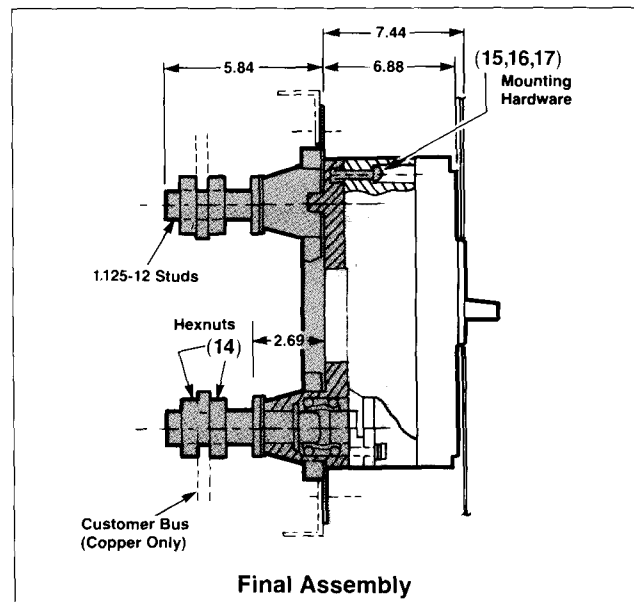
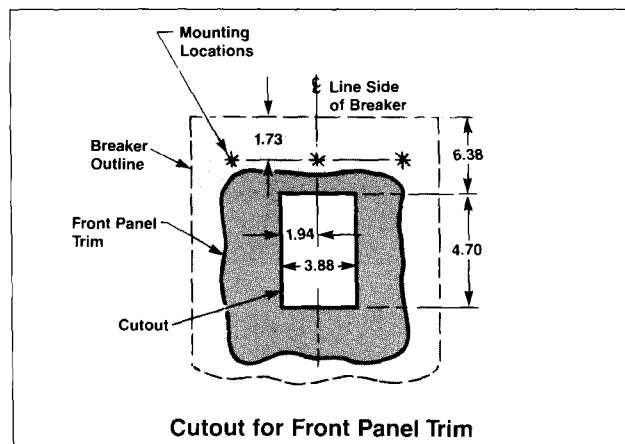

Figure 5
Figure 6
Final Assembly (Figure 5)
- A. Make bus connection to mounting block studs. *Use Only Copper Bus Bars.* Use hex nuts (14) furnished to secure this connection. Tighten to 2400 in.-lb. (Figure 5).
- B. Align breaker with mounting blocks and force female tulip clips over male studs in mounting block until breaker base bottoms against mounting block. Secure breaker in place with $\frac{3}{8}$ -16 x $1\frac{1}{2}$ in. mounting screws (15), lockwashers (16), and flatwashers (17) furnished. Tighten to 216 in.-lb.
- C. Replace breaker terminal shields (7) and secure with four breaker terminal shield screws (6). Tighten to 12 in.-lb.
- D. If installation requires use of front panel trim, provide cut-out for breaker escutcheon as shown in Figure 6.